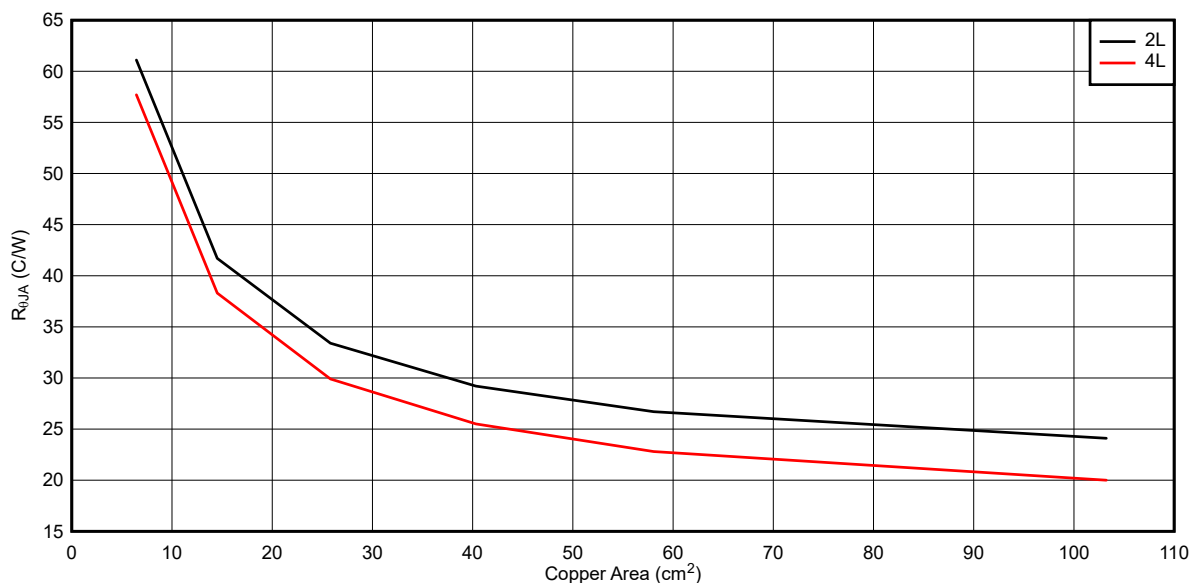
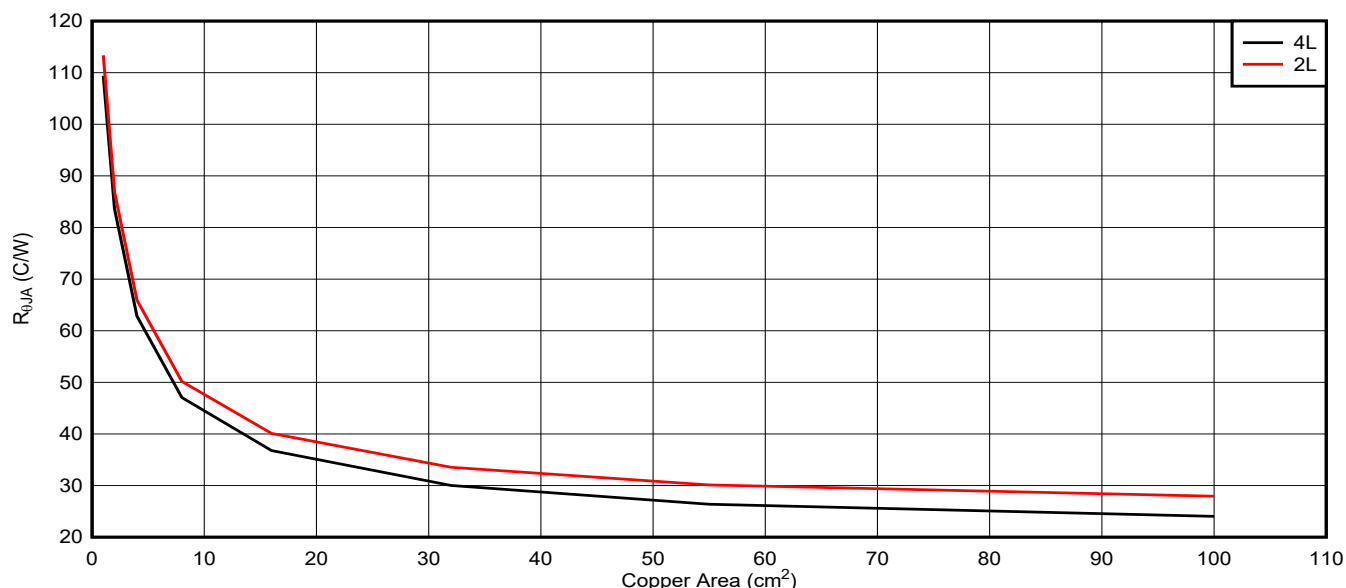
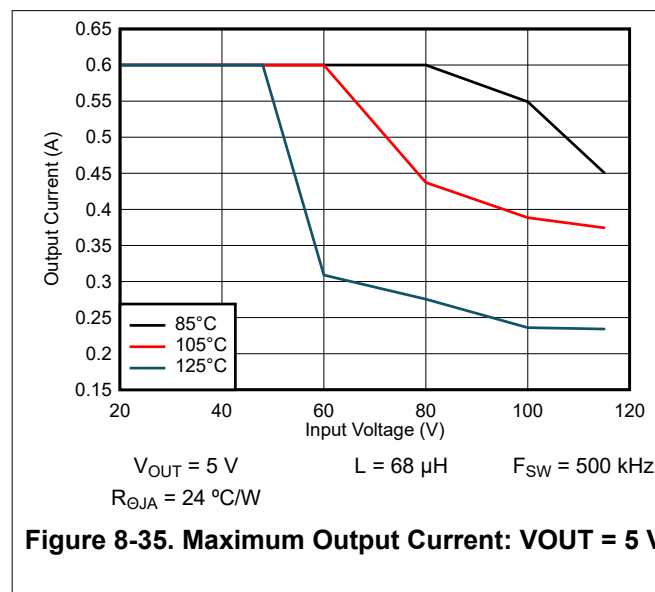
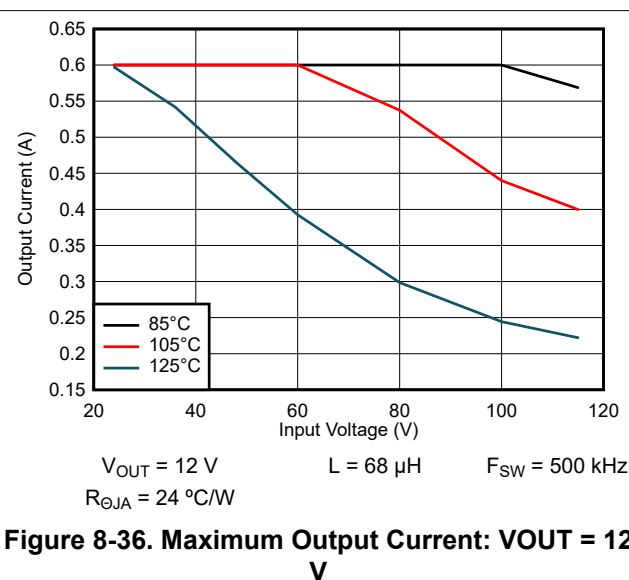

Figure 8-33. Typical $R_{\theta JA}$ Versus Copper Area for DDA package
Figure 8-34. Typical $R_{\theta JA}$ Versus Copper Area for NGU package
Figure 8-35. Maximum Output Current: $V_{OUT} = 5\text{ V}$
Figure 8-36. Maximum Output Current: $V_{OUT} = 12\text{ V}$
The LM516x features a die attach paddle, or "thermal pad" (EP), to provide a place to solder down to the PCB heat-sinking copper. This provides a good heat conduction path from the regulator junction to the heat sink and must be properly soldered to the PCB heat sink copper. Typical examples of $R_{\theta JA}$ can be found in Figure 8-33 and Figure 8-34. The copper area given in the graph is for each layer. The top and bottom layers are 2-oz copper each, while the inner layers are 1 oz.
The data in Figure 8-35 and Figure 8-36 can be used as a guide to determine the maximum output current for a given set of conditions. The particular conditions under which these graphs were taken are indicated in the notes below each graph.
Remember that the data given in Figure 8-33 through Figure 8-36 is for illustration purposes only, and the actual performance in any given application depends on all of the previously mentioned factors.